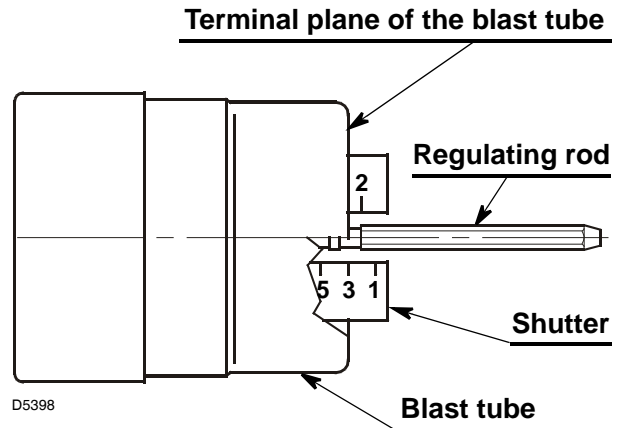

Fig. 24
This is done when fitting the nozzle, with the blast tube (1) (Fig. 24) removed.